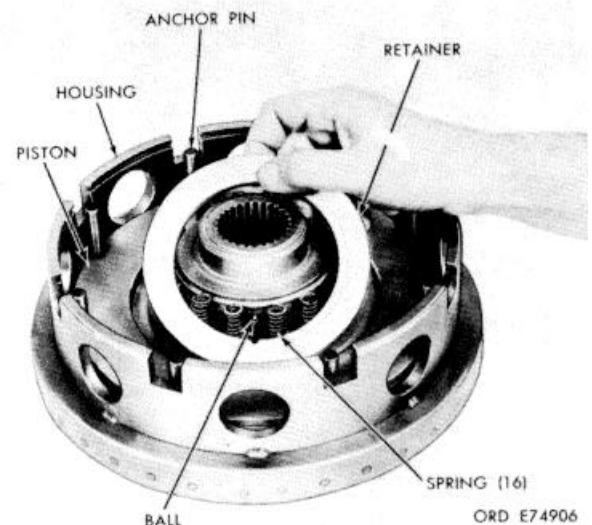

Figure 7-7. Installing high-range clutch piston return spring retainer.
a. If balls (3) were removed from housing (2), install new balls. Stake metal in three places at the end of the hole, to retain the ball, but not to affect its movement in the hole.
b. Install sealring (8) onto the hub of housing (2).
c. Install eight high-range clutch anchor pins (fig. 7-7).
d. Install expander spring (6, FO-4) and sealring (5) onto piston (7), as outlined in paragraph 7-55, following.
e. Lubricate sealring bores and sealrings with the same oil as used in the power train and carefully install piston (7) with expander spring (6) and sealring (5) into housing (2). Refer to figure 7-7.
f. Install ball (13, FO-4) into the recess of the housing hub, retaining it with oil-soluble grease (fig. 7-7).
g. Install 16 piston return springs (12, FO-4). Indexing the retainer (14) with ball (13), install the spring retainer. Refer to figure 7-7.